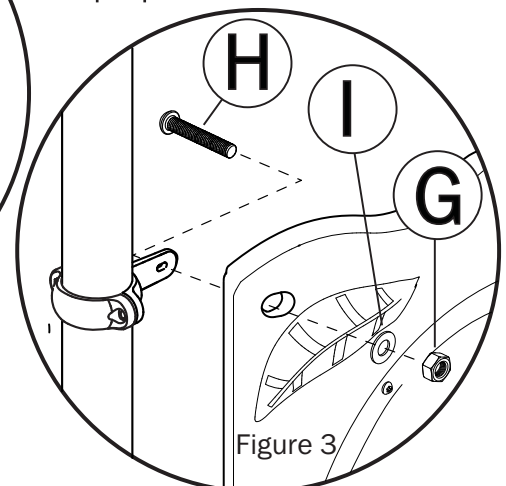

Figure 3
**!** If Activity Panel or Barrier Panel shares the same Upright, A 90° Clamp(B) is required.
- Align holes in 90° Clamps(B) with holes in Crawl Tunnel(A) and insert Bolt(H) into 90° Clamp(B), through Crawl Tunnel(A) and secure with Flat Washer(I) and Lock Nut(G). See Figure 3.
4. Close Panel Clamp(B) around upright and insert (2) Bolts(F) into Clamp(B) and tighten with Lock Nuts(G). Repeat for other Clamp. See Figure 3.
5. Tighten Panel Clamp(B) bolts securely.
**Bolts(H) MUST be cut off if more than (2) threads extend beyond Nut(G) when tightened.**